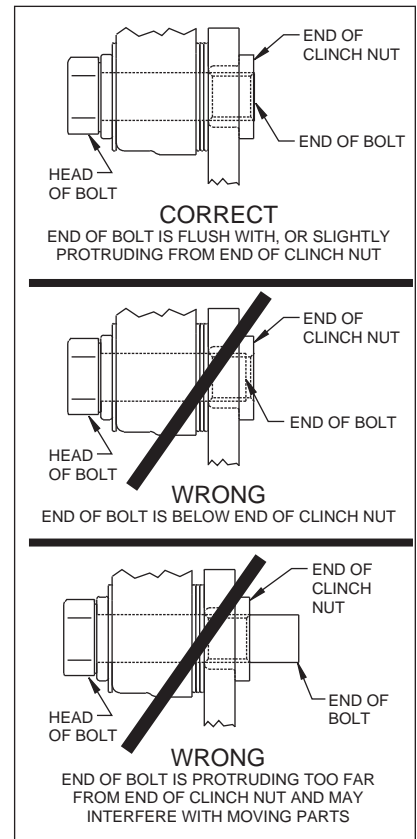

Figure 8.
- NOTE:** Please reference the caution statement at the beginning of the assembly instructions. Mount the caliper (6) over the rotor (3) and onto the caliper mounting bracket (1) using the washers (7) and mounting bolts (8). View the rotor through the top opening of the caliper. The rotor should be aligned in the center of the caliper. If not, adjust the caliper by using 0.032 inch shims (9) by placing them between the caliper mounting bracket (1) and the caliper (6). Add as many shim washers (9) as necessary to achieve the correct alignment. **NOTE:** The end of the bolt must be flush with or slightly protruding from the head of the clinch nut. See Figure 8. Place spare shims (9) between washer and caliper mounting ear to achieve the proper mounting fastener configuration. Always use the same amount of shims on both the top and bottom caliper mounting bolts (8). Apply red *Loctite*® 271 to the mounting bolt threads (8) and torque to 40 ft-lb. Caliper mount bolts may be safety wired for additional security.
- Position the Wilwood disc brake pads (10) into the caliper (6) and fasten with cotter pin (4). Steel backing plate side of brake pad should face the caliper pistons.